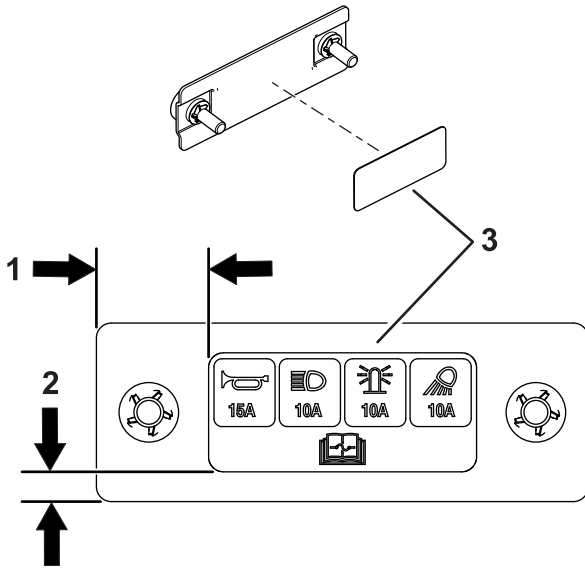

Figure 10
9. Apply the decal to the fuse cover as shown in Figure 10.